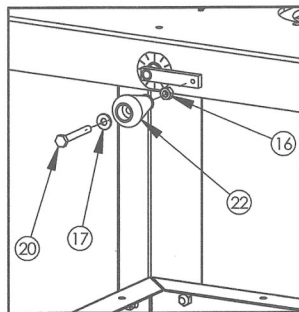

Figure 5.
- Attach the knob to the cross feed crank handle. Tighten the nut to the cross feed handle using an open-end wrench. The knob should rotate freely (Figure 5).